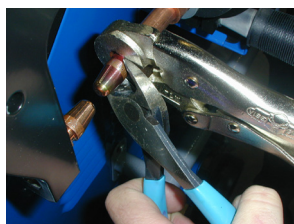

Figure 5.6b: Removing Welding Cap
2. Grip welding cap with another set of pliers or wedge side cutters between cap and shank as shown in *fig. 5.6b*